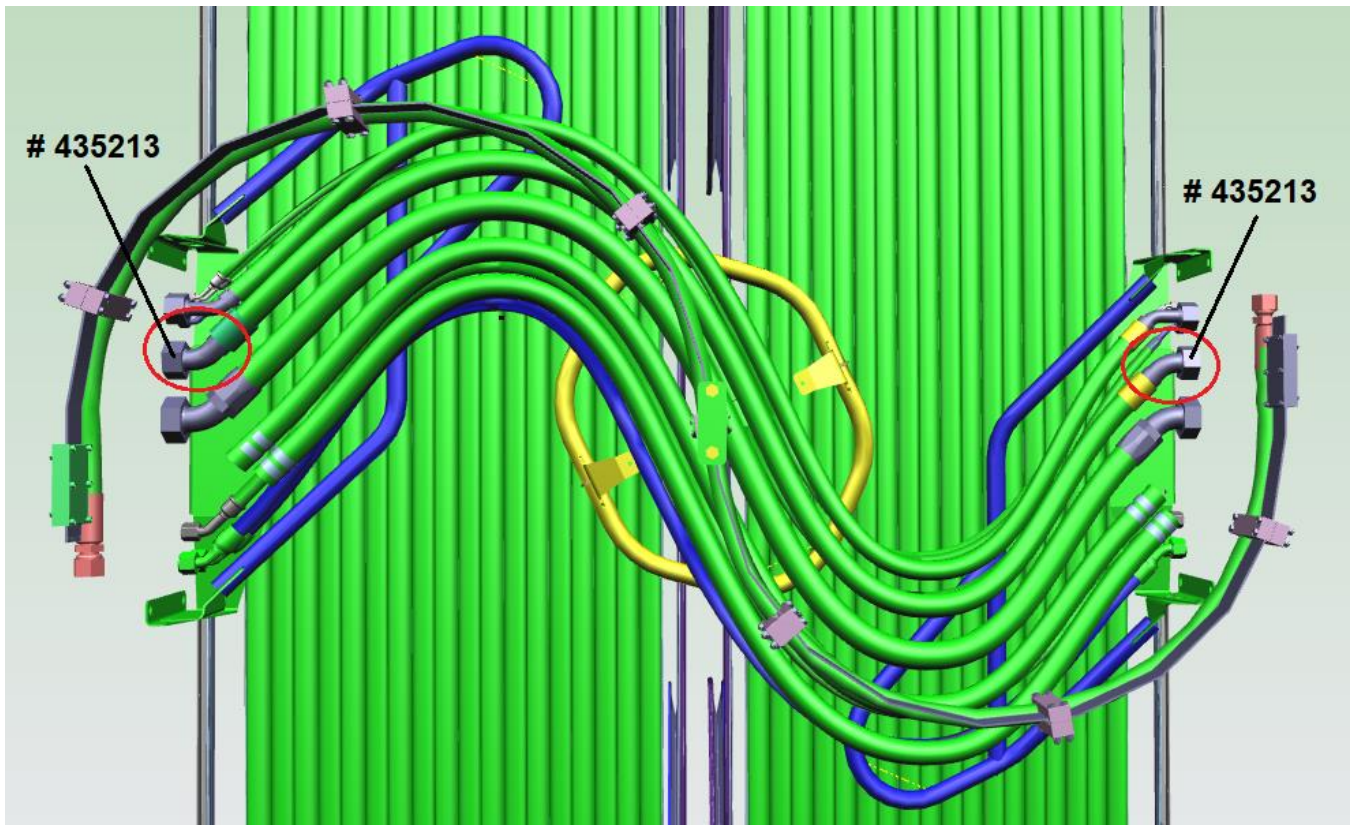

Figure 1: AC hose location reference
3. Locate hose P/N 435213 See figure 1.